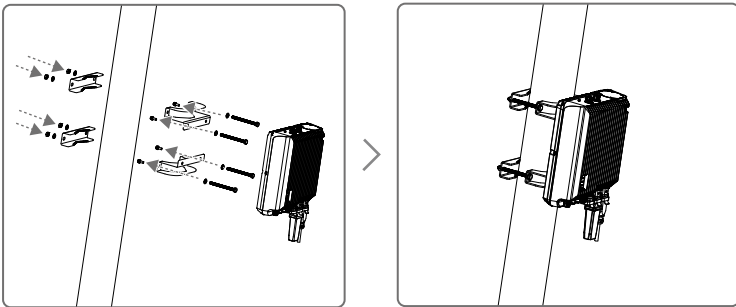

Figure 2. Attaching the stationary unit to the pole
2. Attach the stationary unit and the antennas to the pole. The processes for installing the stationary unit, G8 antennas, and G16 antennas are illustrated in Figures 2, 3, and 4 respectively.